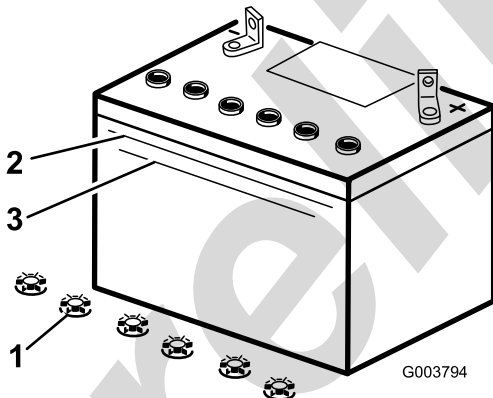

Figure 31
3. Look at the side of the battery. The electrolyte must be up to the Upper line (Figure 31). Do not allow the electrolyte to fall below the Lower line (Figure 31).
3. Remove the filler caps from the battery (Figure 31).
4. Slowly pour distilled water into each battery cell until the electrolyte level is up to the Upper line (Figure 31) on the battery case.
5. Wait five to ten minutes after filling the battery cells. Add distilled water, if necessary, until the electrolyte level is up to the Upper line (Figure 31) on the battery case.